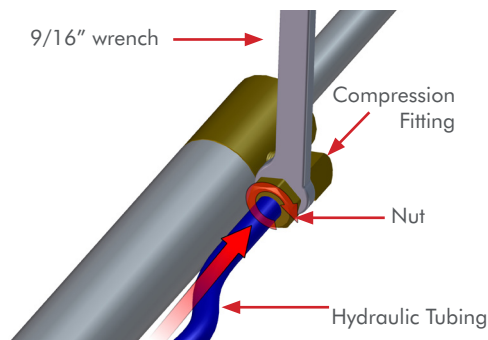

Figure 9
STEP 5 Tighten both **Compression Fitting Nuts** with a **9/16" wrench**. **FIG 9**